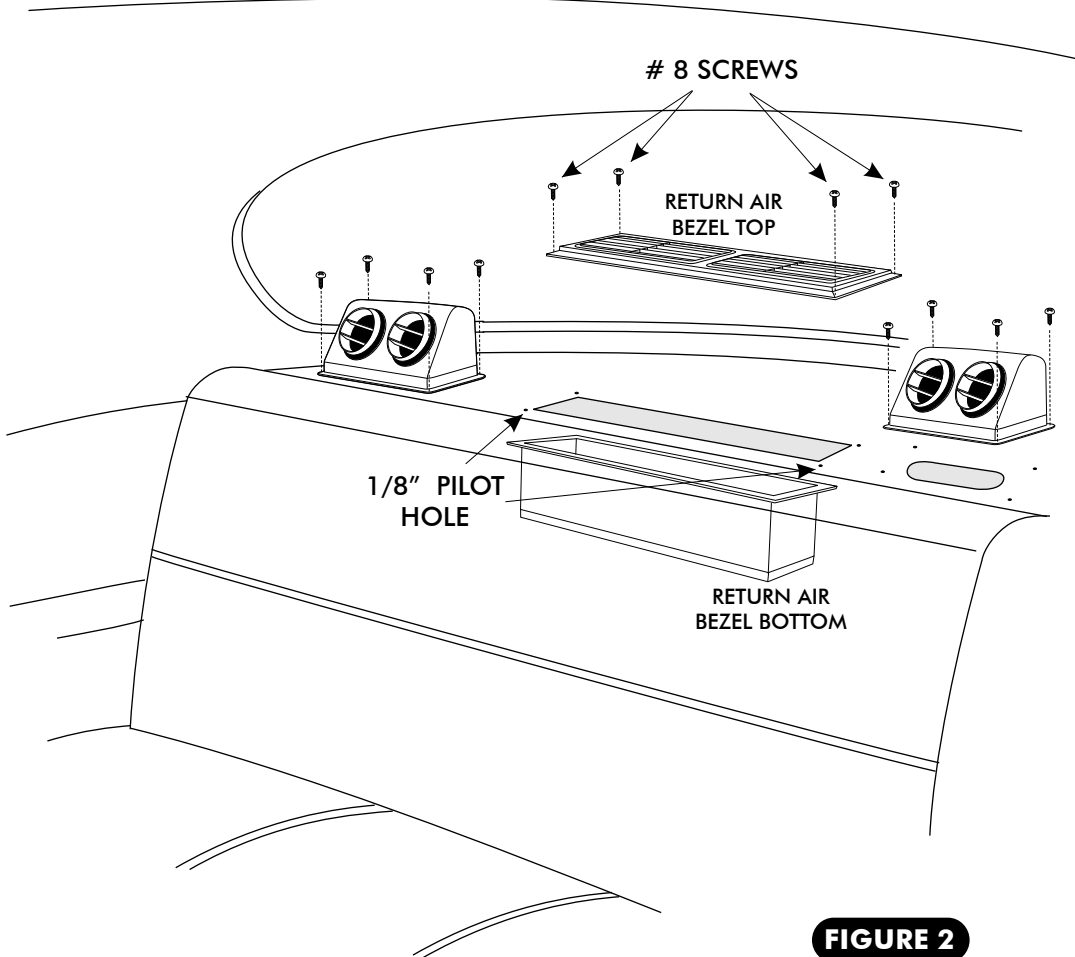
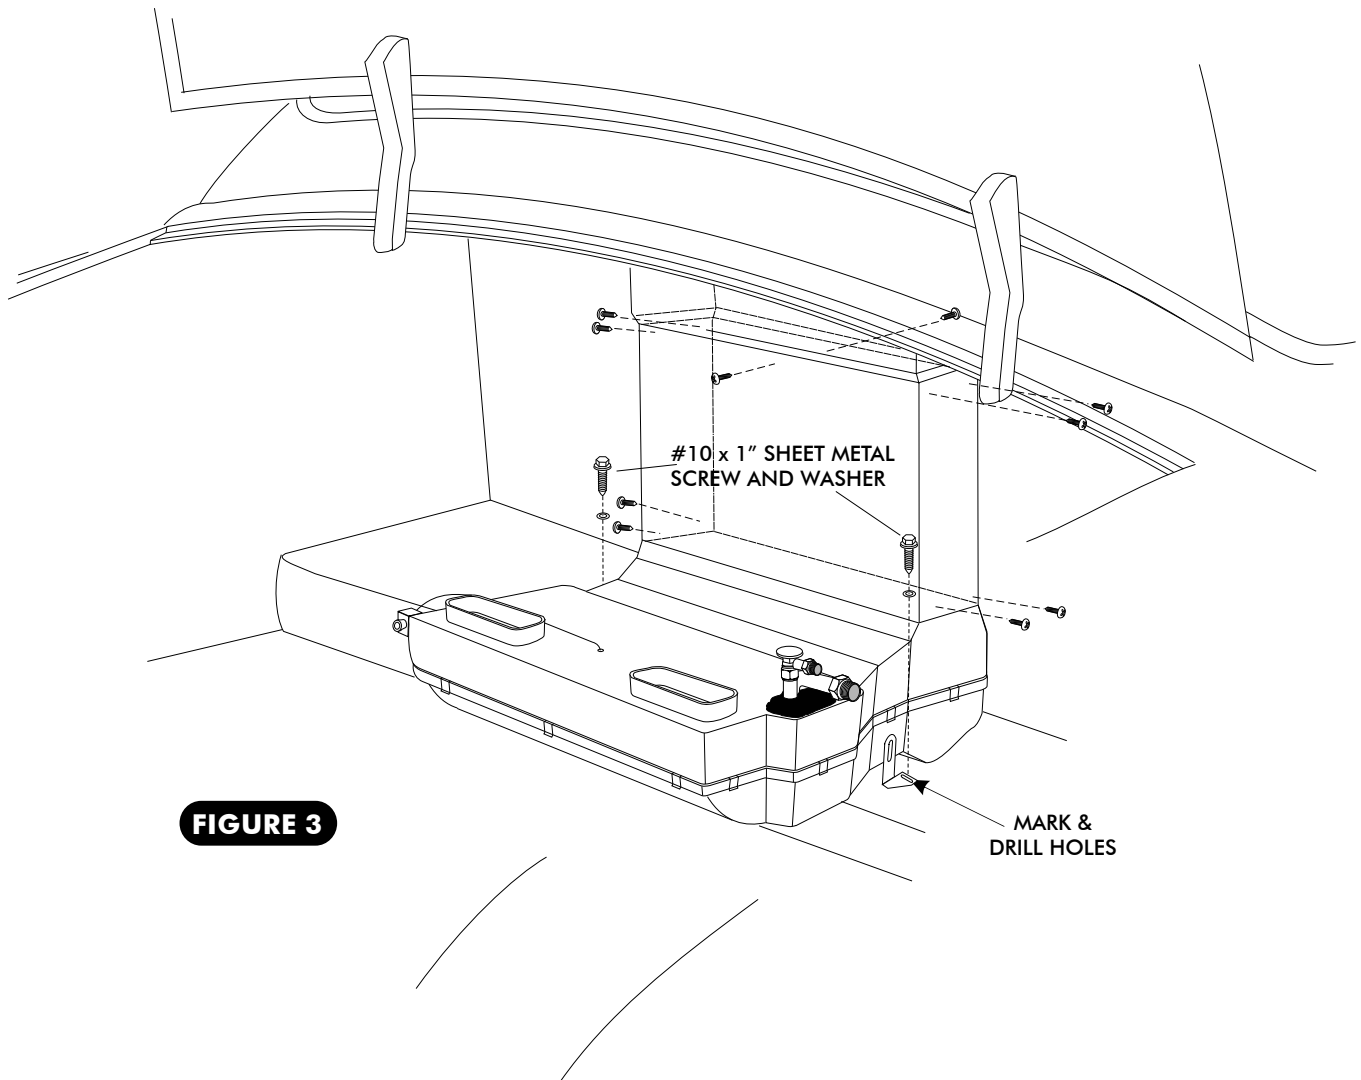

FIGURE 2
FIGURE 3
- ONCE IN PLACE AND CERTAIN THERE ARE NO OBSTRUCTIONS UNDER THE FLOOR OF TRUNK, MARK THE MOUNTING HOLES THROUGH BRACKETS. SEE FIGURE 2, BELOW.
- ALIGN THE EVAPORATOR WITH HOLES IN TRUNK AND SECURE WITH (2) #10 x 1" SHEET METAL SCREWS AND WASHERS PROVIDED.
- SECURE PLENUMS TO EVAPORATOR SUB CASE USING 8 x 1/2" SCREWS. SEE FIGURE 3, BELOW.